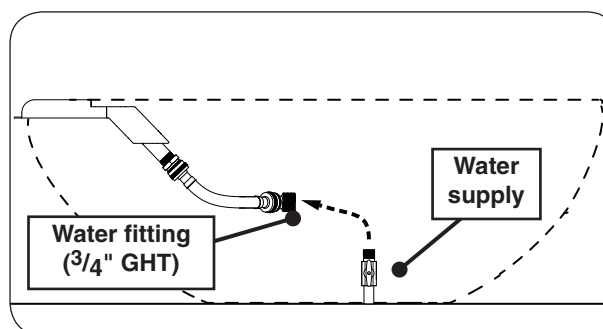

Fig. 24-2 Connect water supply (if applicable)
2. Plumb the water supply to the 3/4" GHT fitting (see Fig. 24-2).